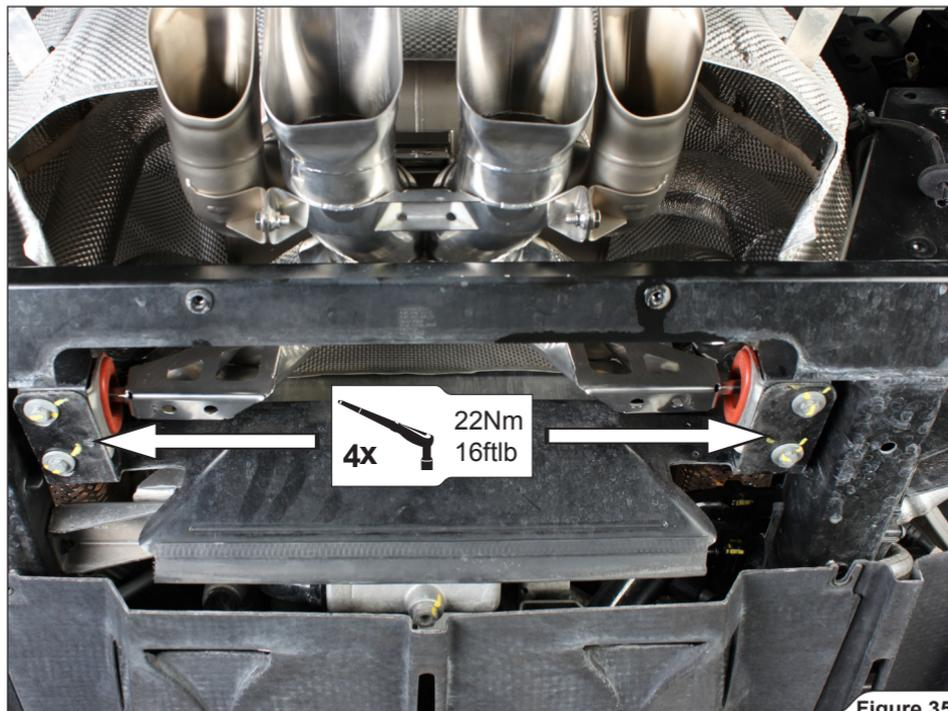

Figure 35
10. Tighten the marked muffler's lower brackets bolts (Figure 35).